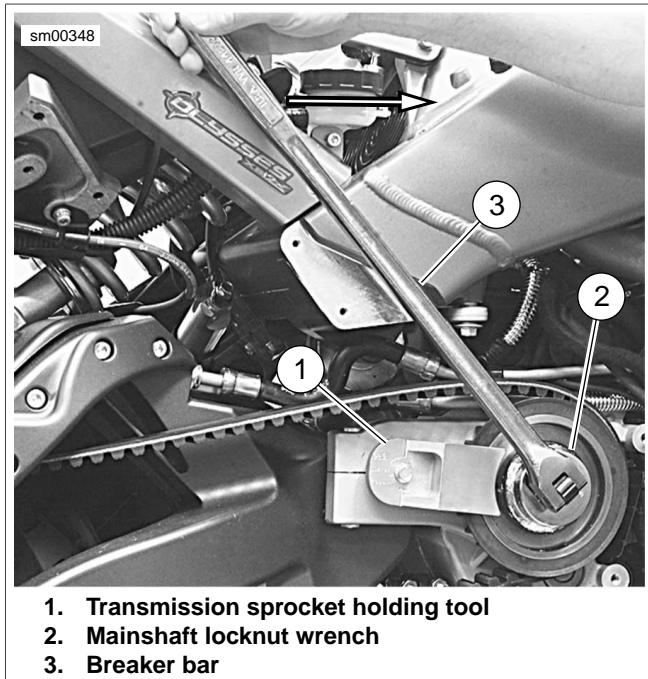

Figure 5-102. Removing Transmission Sprocket Locknut
8. See Figure 5-102. Place transmission in neutral. Install the P3/Blast sprocket holding tool (1) to hold the sprocket.
- See Figure 5-102. Scribe a line on the transmission sprocket nut and continue the line on the transmission sprocket as shown.